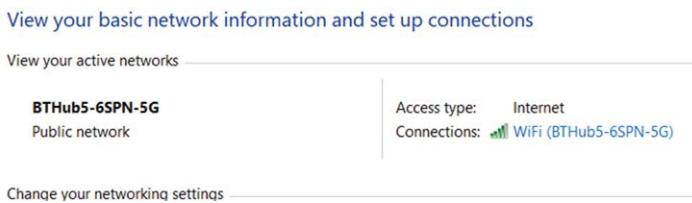

Figure 2.12: Click: Internet.
- Click **Internet** as shown in Figure 2.12.